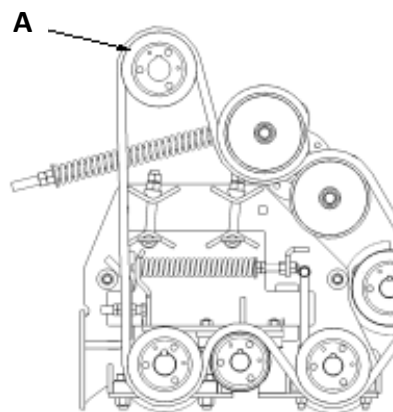

Figure 7-24: Front Grabroll Speed Adjustment
4. Remove the sheave (A), shown in Figures 7-24 and 7-25, by first removing sheave bolts.